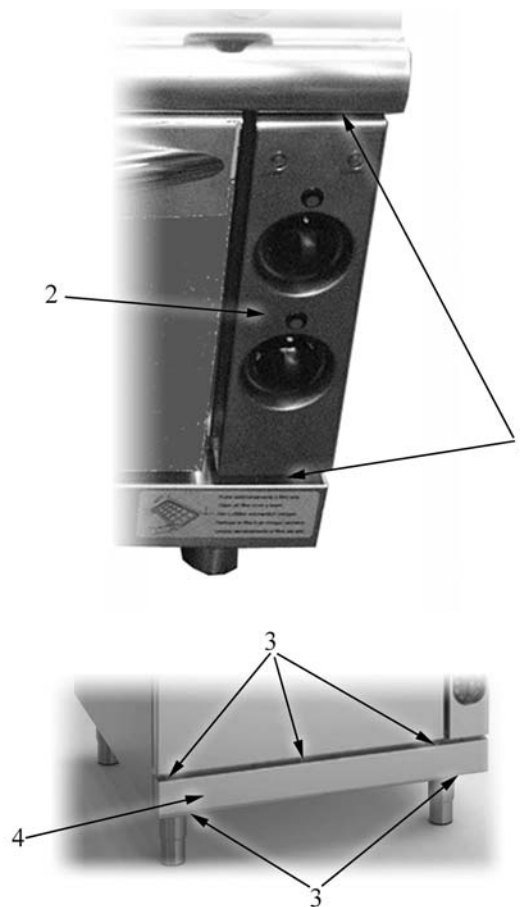

Fig. 7
- Remove the angle bar (pos. 2 in Fig.7) loosening the fixing screws (pos. 1 in Fig.7);
- Remove the lower front panel (pos. 4 in Fig. 7), loosening the fixing screws (pos. 3 in Fig. 7).